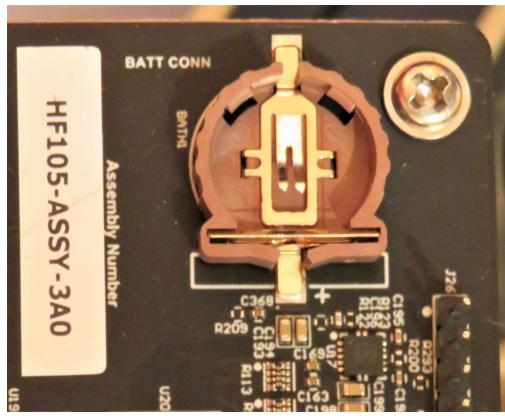

Figure 12: CR1220 Battery Connector
6. If the Real-Time Clock (RTC) feature is to be used, install a CR1220 3V Lithium coin-cell battery into the battery compartment shown in Figure 12.